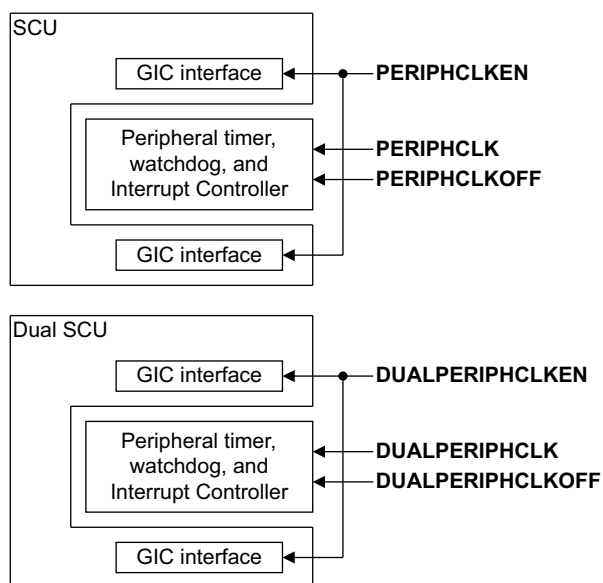

Figure B-1 Clocking in lock-step or split/lock implementation
b. Only present if lock-step or split/lock is implemented. Figure B-1 on page B-4 shows how these signals are used in a single SCU and a dual SCU implementation.